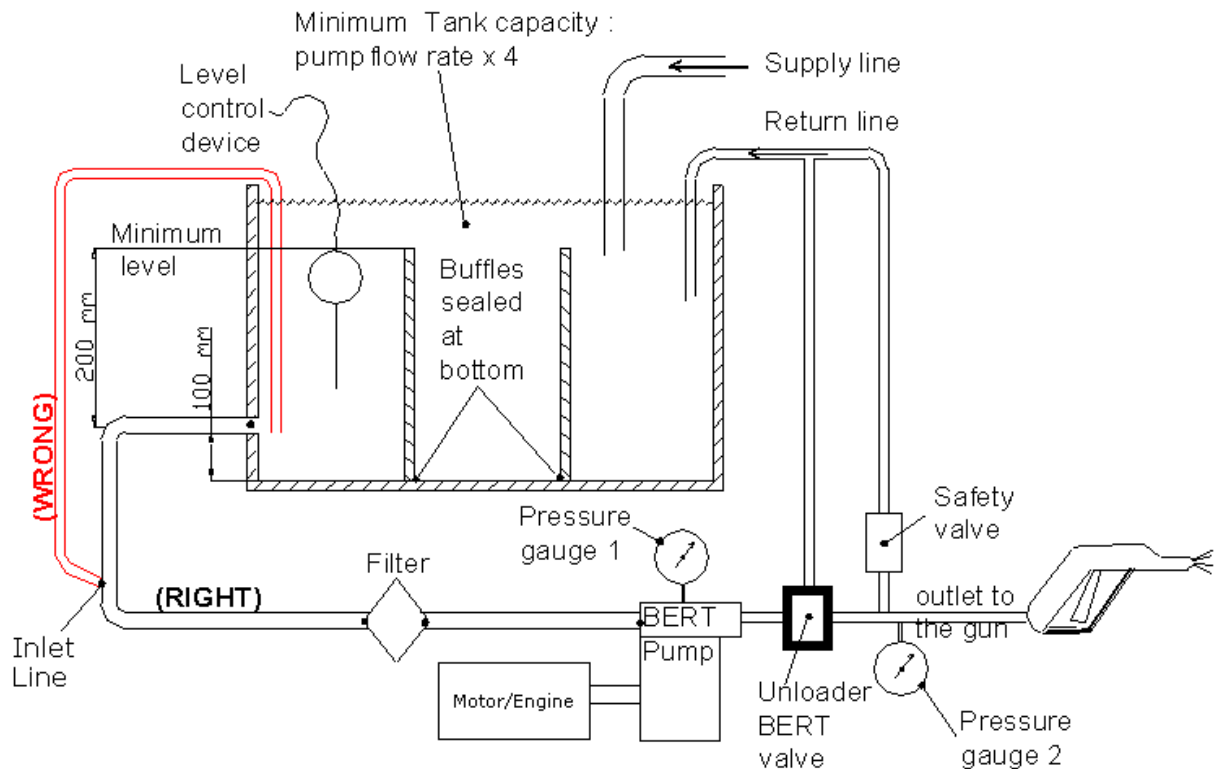

Fig. 3
- In case of inlet from a tank, in pressure or in suction, respect the following instructions and what indicated in fig. 3.